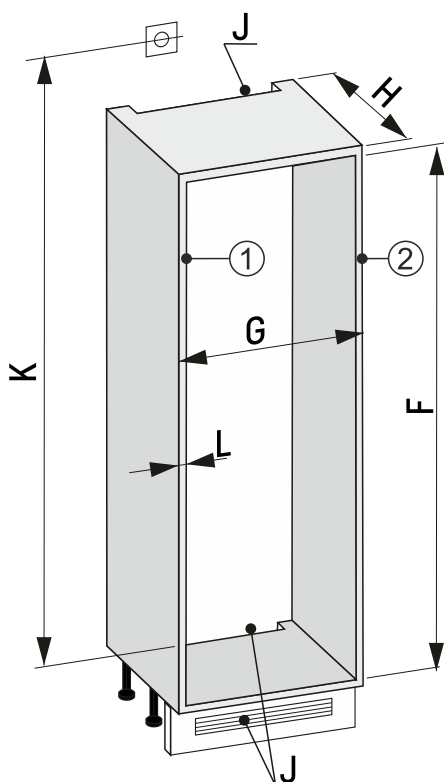

Fig. 91 30" niche
- Measure the thickness of the wall unit Fig. 91 (L).